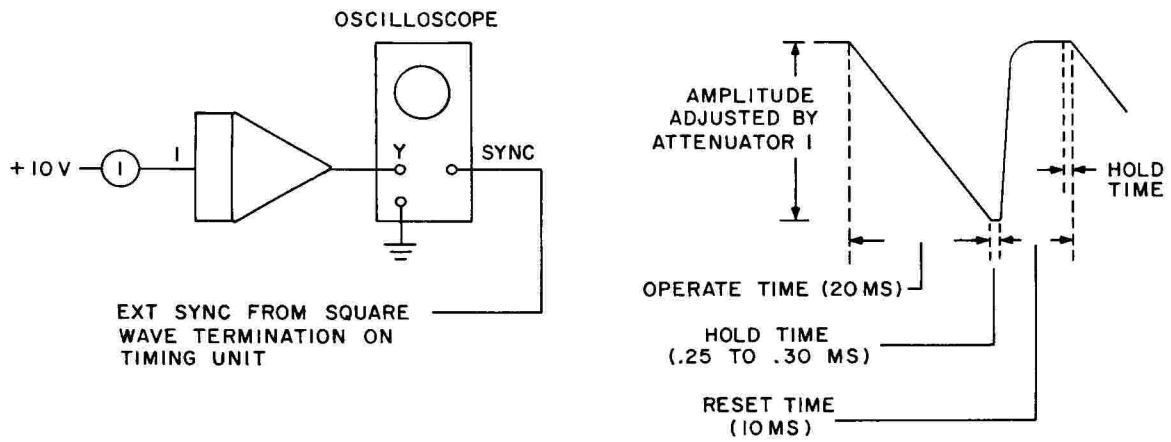
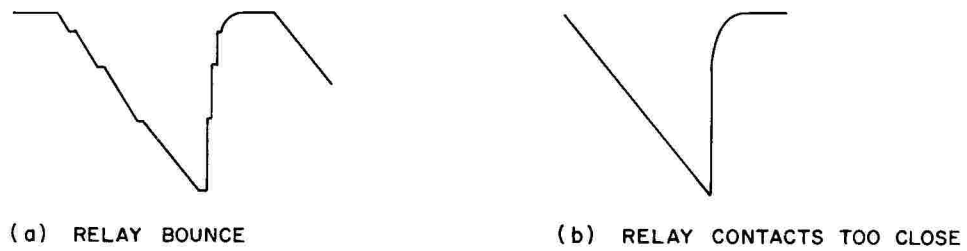

Figure 55. Reset and Operate Time Adjustment
Figure 56. Improper Waveforms
(1) Mount the Timing Unit on a service shelf. Connect an integrator as shown in Figure 55. Set the oscilloscope controls as follows: vertical sensitivity to 1 volt/cm, sweep to 5 millisecc/cm (calibrated), use external sync.
(2) Place the Mode Control switch (S5) in the hold position. Place the COMPUTE TIME MILLISEC switch to the 20 position; turn the CALIBRATE VERNIER fully counter-clockwise. Adjust the amplitude of the oscilloscope waveform by varying the setting of coefficient attenuator 1.
(3) The displayed waveform should be similar to the one shown in Figure 55. Adjust R9 in the Timing Unit until the indicated reset time is 10 milliseconds +0.5 milliseconds. (The reset time shown in Figure 55 includes a hold time of 0.25 to 0.30 milliseconds before the next compute time.)
- (1) Remove the retaining screws from the front of the Rep Op Control Panel and lift the panel away from the computer. Do not disconnect connector J38.
- (2) Complete Steps (1) and (2) of the reset time adjustment procedure.
- (3) Place the COMPUTE TIME MILLISEC switch to the 50 position. Reduce the input to the integrator (to prevent overload) by varying coefficient attenuator 1. Adjust R2 in the Rep Op Control Panel to produce an operate time of 50 milliseconds $\pm 5\%$.
- (4) Repeat Step (3) with the COMPUTE TIME MILLISEC switch in positions 100 and 200. Adjust R3 on the Rep Op Control Panel for an operate time of 100 milliseconds $\pm 5\%$; adjust R4 for an operate time of 200 milliseconds $\pm 5\%$. In each case, reduce the integrator input.
- (5) Rotate the CALIBRATE VERNIER clockwise and verify a scale expansion of at least 2.5.
The high-speed repetitive relay (K3) in the Model 12.1115 Integrator Network seldom, if ever, requires adjustment during its service life. If adjustment is required, it is recommended that the relay be returned to EAI since adjustment is a tedious task that requires special equipment. Each relay can be checked by performing Steps (1) and (2) of the reset time adjustment procedure. A waveform similar to Figure 55 should be observed. Improper waveforms that might be observed are shown in Figure 56. Relay bounce (small steps) during the reset time may appear but cannot be tolerated during the operate time.